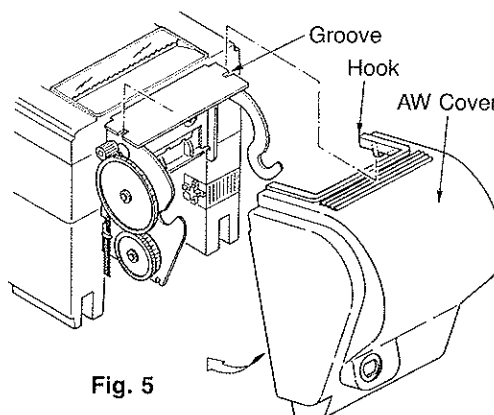

Fig. 5
1) Without lock option as per figure 5.